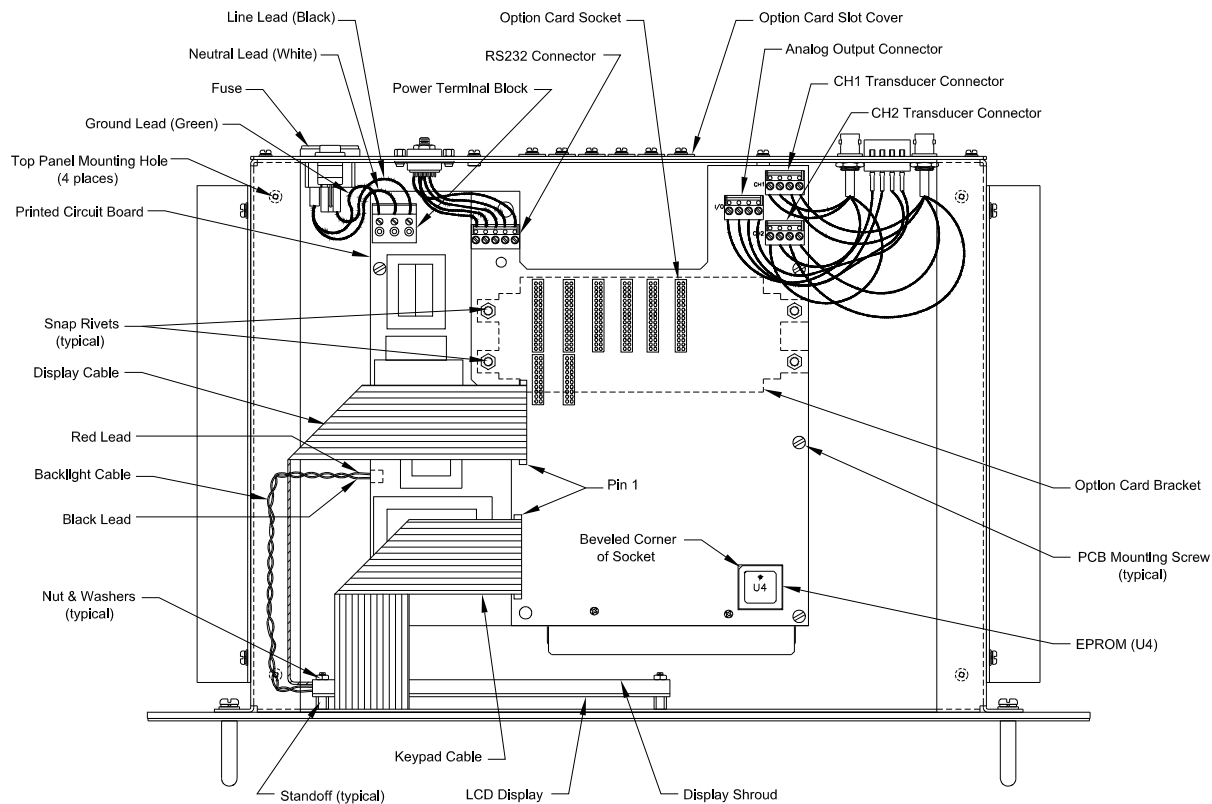

Figure 11: Model DF868 Rack Mount Console Assembly [ref. dwg #705-849]
Refer to Figure 10 on page 49 and Figure 11 on page 50 for the location of the relevant components, while completing the following procedures. If the top panel of the meter is accessible, service may be performed without removing the meter from the rack. Otherwise, disconnect all rear panel electrical connections and remove the meter from the rack before proceeding.
If it has been determined that the fuse in the Model DF868 requires replacement, refer to Figure 10 on page 49 and Figure 11 on page 50, and complete the following steps:
Refer to Figure 11 on page 50 and complete the following steps:
EPROM replacement may be required to replace a defective chip or to upgrade to a newer software version. To replace the EPROM, refer to Figure 11 on page 50 and complete the following steps:
To replace the LCD display, refer to Figure 11 on page 50 and complete the following steps:
5. Install the RS232, ANALOG OUT and TRANSDUCER connectors onto the printed circuit board at the locations indicated in Figure 11 on page 50. Make sure the marked pin #1 sides of the connectors face the right side (keypad side) of the enclosure.